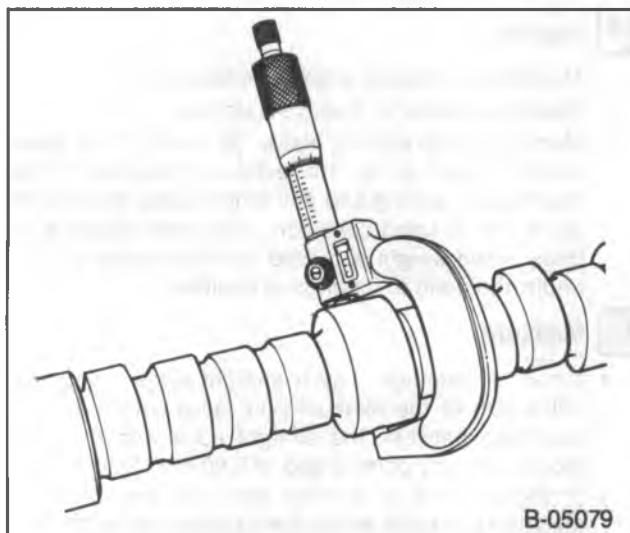

Figure 27—Checking the Camshaft Journals
- Camshaft journal out of round. Use a micrometer (figure 27). The proper diameter is 1.8677-1.8697-inch.